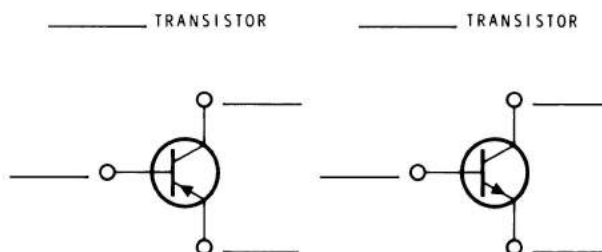

Figure 3-26
8. Identify the type of transistor and the transistor leads by filling in the blanks in Figure 3-26.